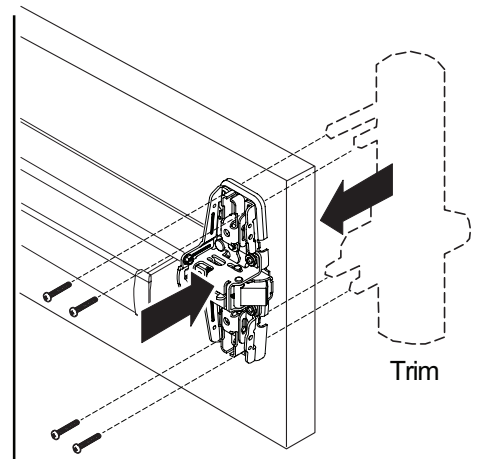

Figure 12-3
12.3. Attach trim to door using four screws through device center case (Figure 12-3).